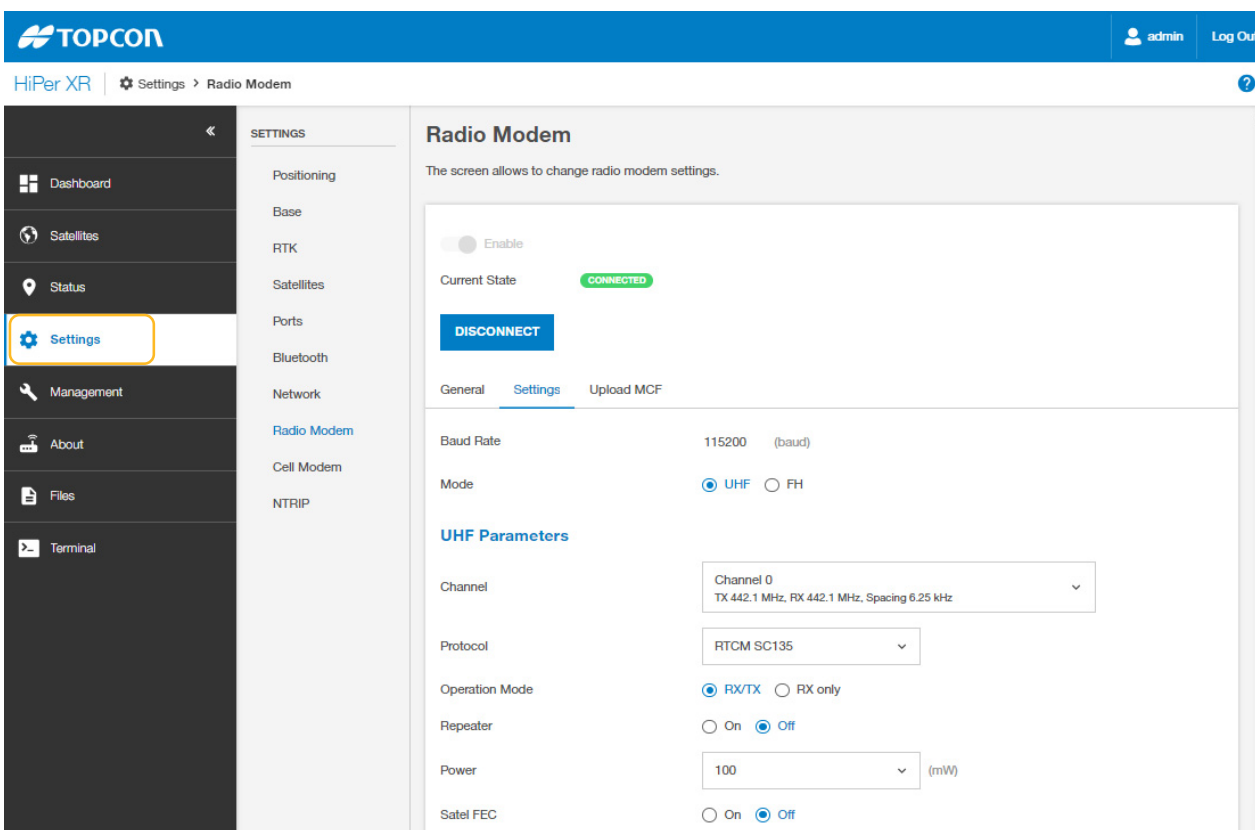

Figure 2-20: Change Radio Modem Settings
3. To get access to and change the radio modem settings, select the **Settings** tab (Figure 2-20).